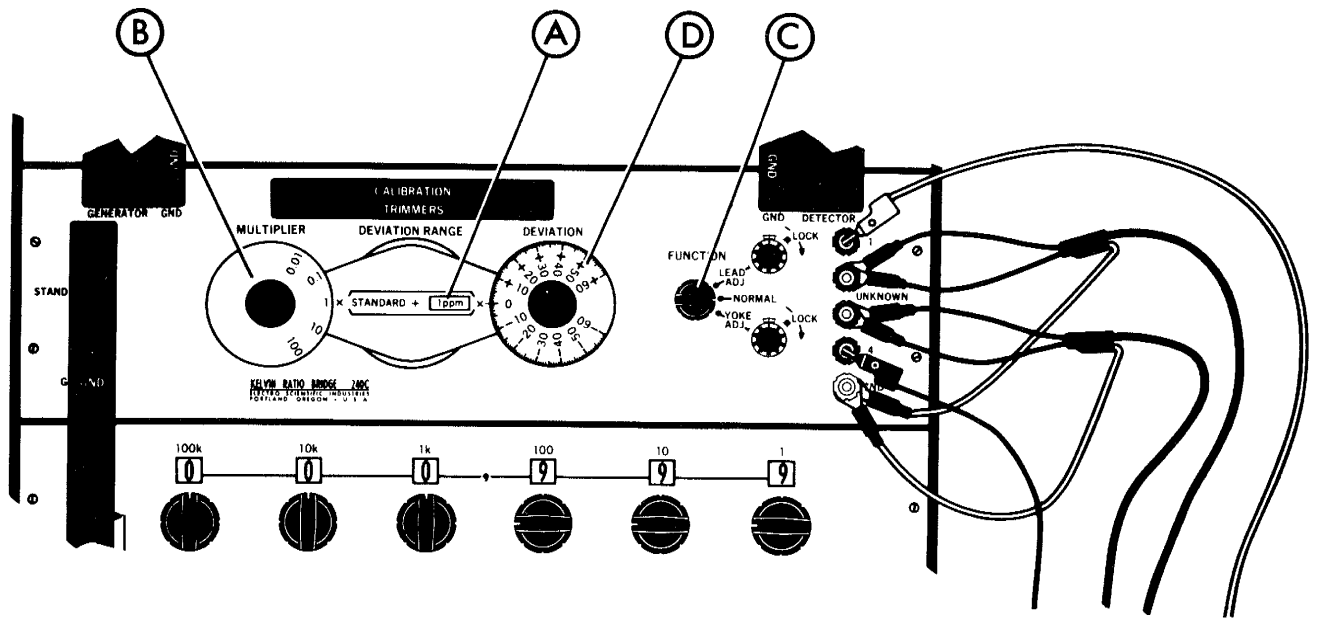

Figure 5-4. Bridge Dial Settings
3. Set the 242D Kelvin Bridge controls for measuring within a ± 60 ppm range. Reference Figure 5-4.
- D. Find the certified value of the 10 ohm standard resistor. Subtract the nominal value (10 ohms in this case) from the certified value. Divide the result by the nominal value (10) and multiply it by one million. This is the certified deviation in ppm, which is positive if the certified value is above the nominal value, negative if below. Set the bridge DEVIATION dial to the certified deviation. On the data sheet, record the certified deviation on the first (Certified Value) line.